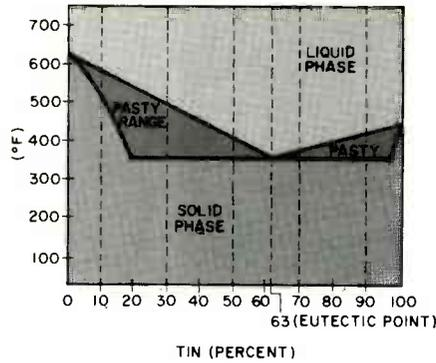

Fig. 1. Melting point, including pasty phase, of alloys of tin and copper.
Characteristics of alloys of tin and lead are plotted against temperature in Fig. 1. This graph, referred to as a phase diagram, allows one to see that only a 63/37 alloy has a eutectic point—that is, a single melting point. All other alloys start melting at one temperature, move through a “pasty” or semisolid stage, and then become liquid at a higher temperature. Any physical movement of the components being soldered while the solder is in the “pasty” range will result in a “cold” joint. Such a joint appears grainy and dull, and is mechanically weaker, thus less reliable. Therefore, 63/37 or 60/40 solder is commonly used in electronics since they do not remain long in a “pasty” phase. However, a 50/50 alloy can be used if proper care is taken.
**How It Works.** The ideal signal waveform and typical "good" and "poor" waveforms found on commercial copies of Level II programs are shown in Fig. 1. As shown in Fig. 1C, superimposed noise, power-line hum, amplitude distortion, and ringing and displacement of the data pulse relative to the clock pulse (timing jitter) can make it likely that the computer will lose bits. And a single lost bit, of course, makes the entire program useless.